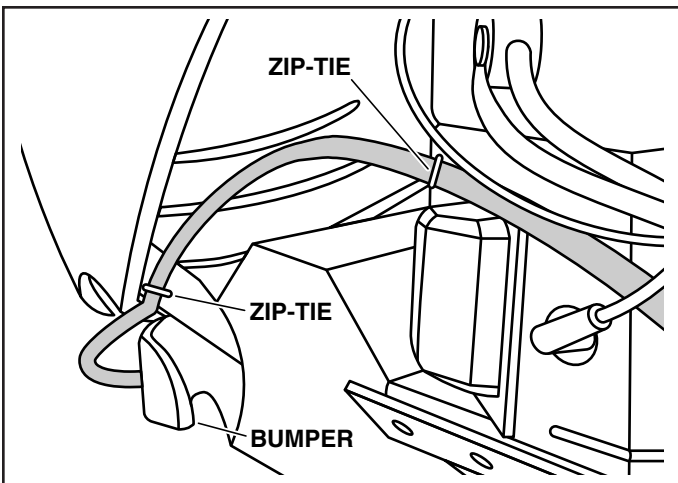

Figure 21.
2. See figure 21. Finish routing the wiring of the actuator lift control to the front of the bumper. Use zip-ties on the hood support and engine lift bracket to secure the wiring to those locations.